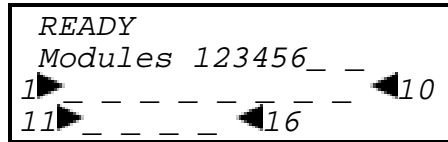

Figure 2-16 Default Screen
1. Turn the system on*, and wait until the Power-On Self Test terminates and the default screen appears on the display. Figure 2-16 shows a typical default screen. Yours may vary depending on the number of modules in your system, as shown in the second line.
1. As shown in Figures 2-16 through 2-18 in the preceding procedure, navigate from the Default Screen through the Main Menu to the Configure Submenu.
1. As shown in Figures 2-16 through 2-18, navigate from the Default Screen through the Main Menu to the Configure Submenu.